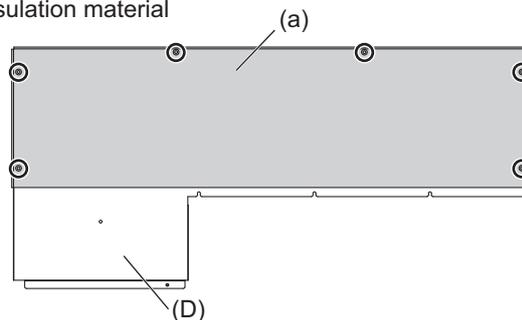

Fig. 7
- To avoid dew condensation, use insulated screws in the places marked with circles in Fig. 7.